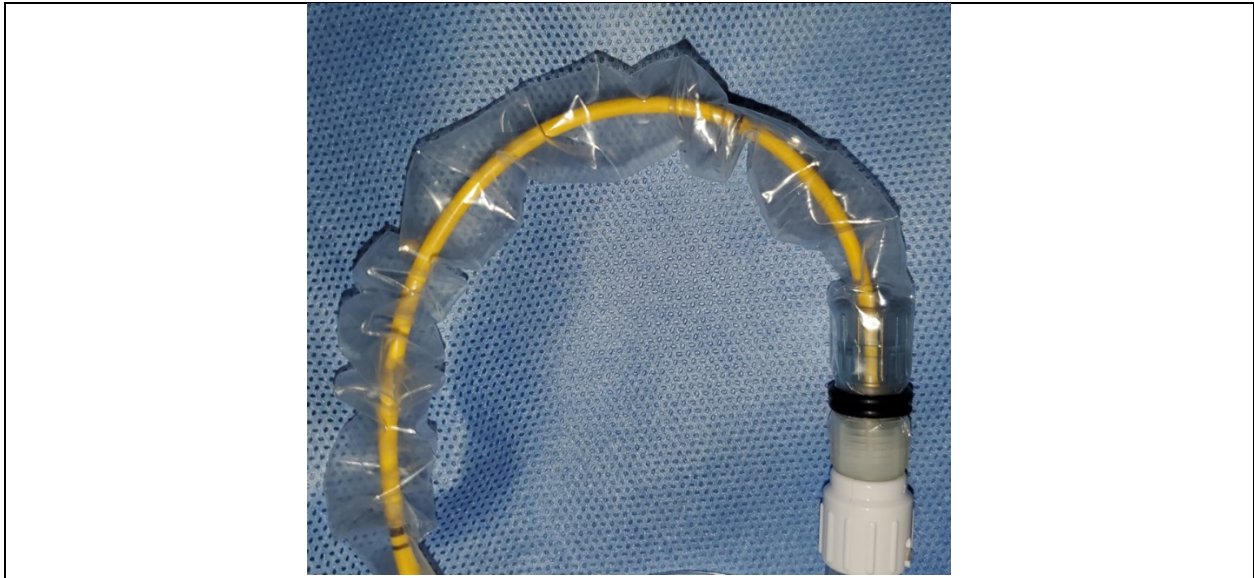

Figure 9: Edwards™ Swan Ganz catheter inserted through Edwards™ sleeve and introducer
The pulmonary artery catheter has **3 vascular lumens that must be thoroughly flushed** by the provider prior to insertion of the catheter into the sheath (blue proximal (CVP), white proximal (VIP) and yellow distal (PA) (Figures 9, 10). Sterility of the entire catheter and its ports must be maintained.